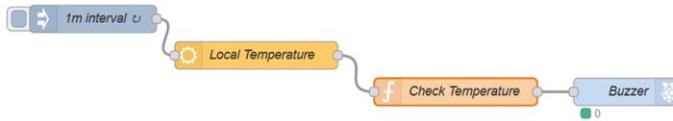

Figure 5.25 Flow program of the project
Node-RED flow program: Figure 5.25 shows the flow program. In this program 4 nodes are used: an **inject** node that repeats every minute, an **openweathermap** node that gets the local weather report, a **function** node that extracts the current temperature from the
- Join all 4 nodes as in Figure 5.25, and click **Deploy**